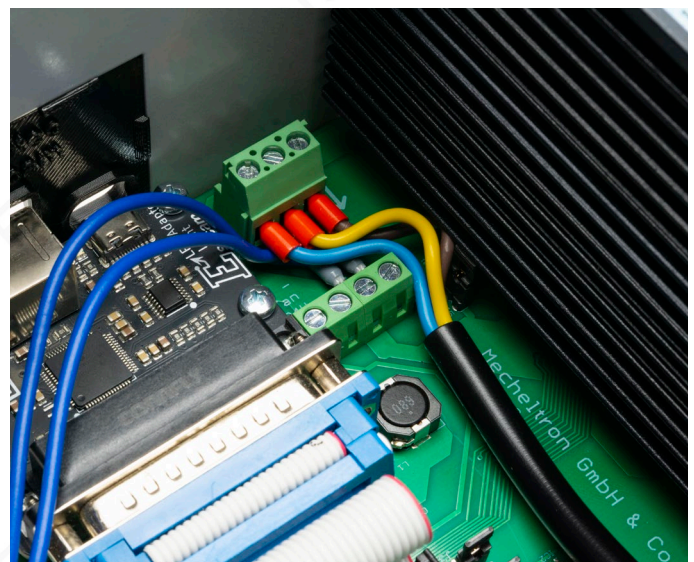

Fig. 15: Power Supply Connection
- Connect the power supply **4** to the terminal next to the adapter module, as shown in Fig. 15.